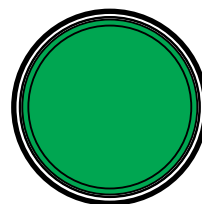

Figure 57. Contactor Closed Lamp (ON/GREEN)
- Verify that the **Contactor Closed lamp** (Figure 57) is **ON (GREEN)**. This indicates that the contactor contacts are closed and power has been sent to the output terminals.